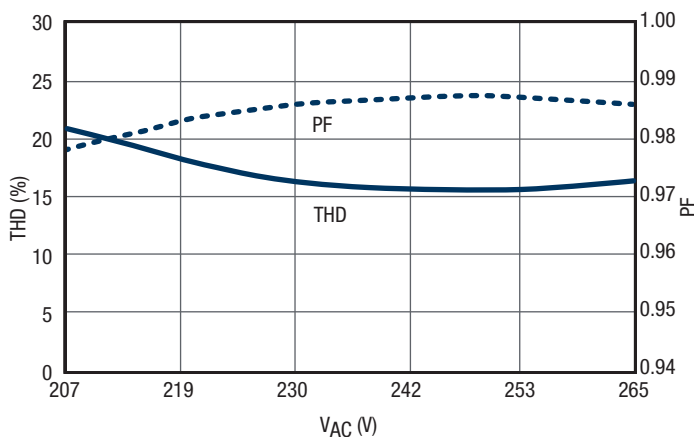

Figure 5. THD and PF vs. VAC for 3-Step Solution
For a typical 2-step driving scheme using a single XR46203, the electrical performance is good enough to meet applications where the Power Factor (PF) is higher than 0.92 and the Total Harmonic Distortion (THD) is around 30%. If higher PF or lower THD is required, one more XR46083 or XR46084 can be added to the circuit to make a 3-step driving scheme, as shown in below. The 3-step system can provide better electrical performance with PF greater than 0.96 and THD approximately 20%. Line regulation, THD and PF performance are illustrated in Figures 5 and 6.